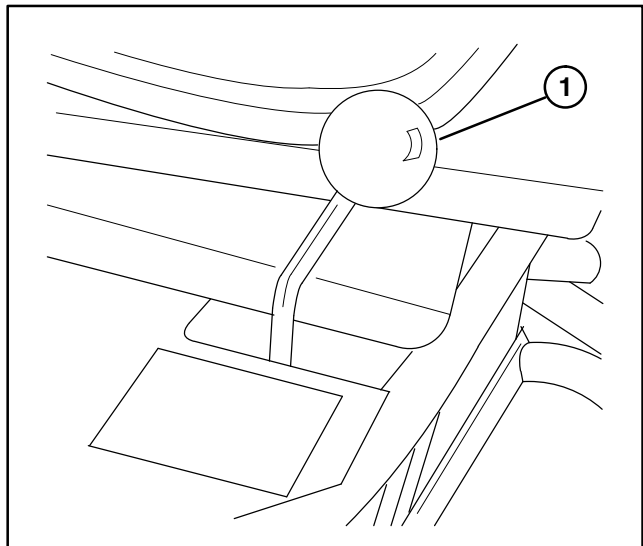

Figure 21
SHIFT SELECTOR (Fig. 21) – Located on the top of the right hand panel. Provides two (2) traction selections, plus a “NEUTRAL” position. It is permissible to shift from one selection to another while the Greensmaster 3050 is in motion. No damage will result.